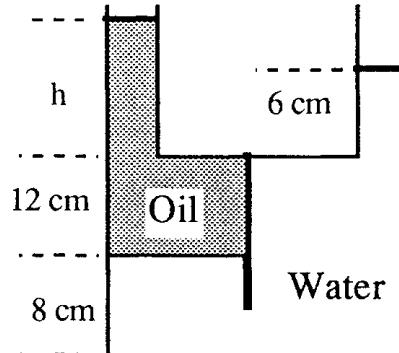

Fig. P2.12
**2.12** In Fig. P2.12 the tank contains water and immiscible oil at 20°C. What is  $h$  in centimeters if the density of the oil is 898 kg/m3?